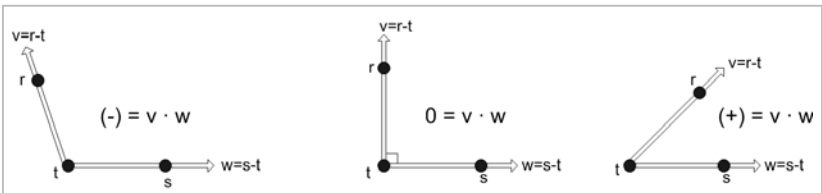

Figure 9-2: Dot product (inner product). A positive number is an acute angle, zero is perpendicular, and negative is an obtuse angle.
Note in Figure 9-2 that if the resulting scalar value is positive (+), the vectors are pointing in the same general direction. If it's zero (0), they are perpendicular from each other, and if negative (-), they are pointed in opposite directions.